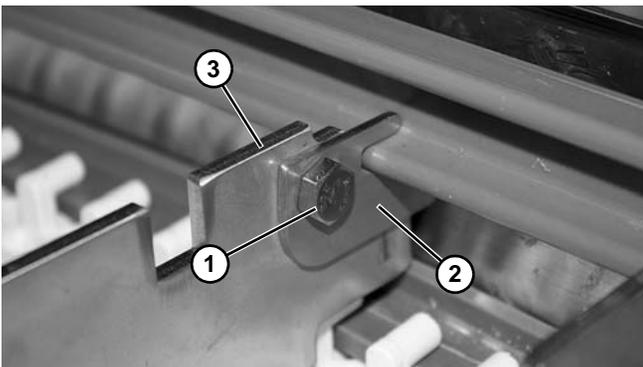

Figure 38
1. Remove the bolt (**Figure 38, item 1**) retaining the wear strip support bracket (**Figure 38, item 2**) to the frame crossmember (**Figure 38, item 3**).